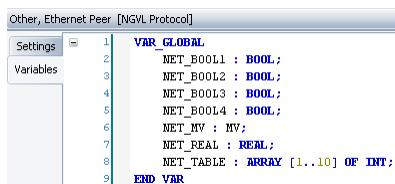

Figure 2.175 Add NGVL Tags
- Step 4. Click on Variables and configure several global variables as shown in the following table and *Figure 2.175*.